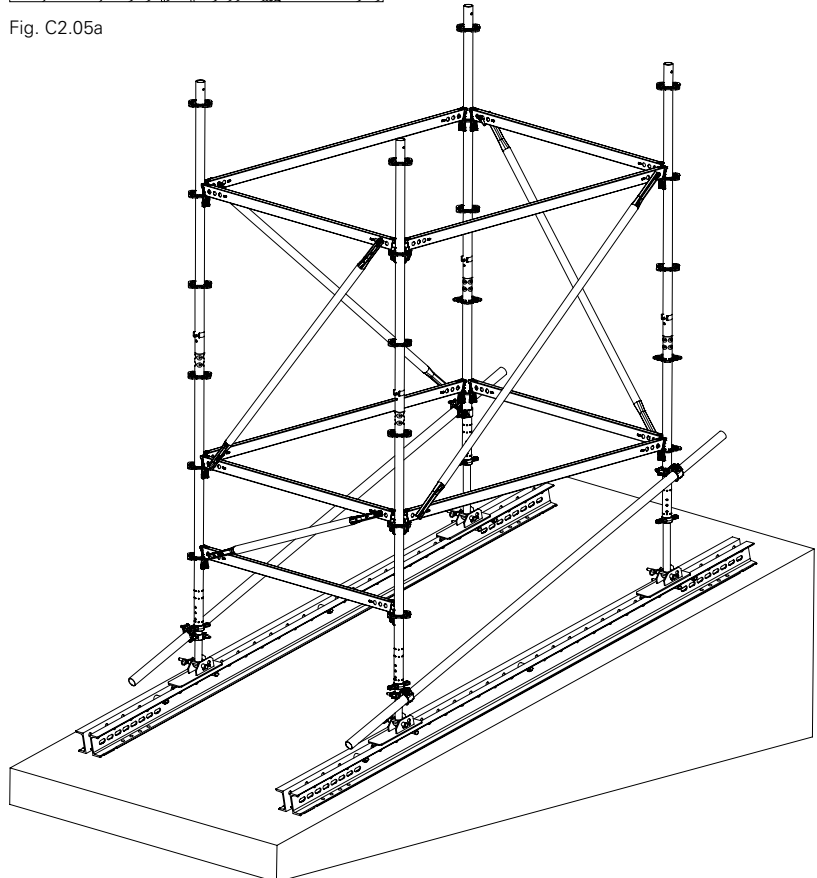

Fig. C2.06
1. Erection of the shoring tower continues in accordance with Section A1. (Fig. C2.06)